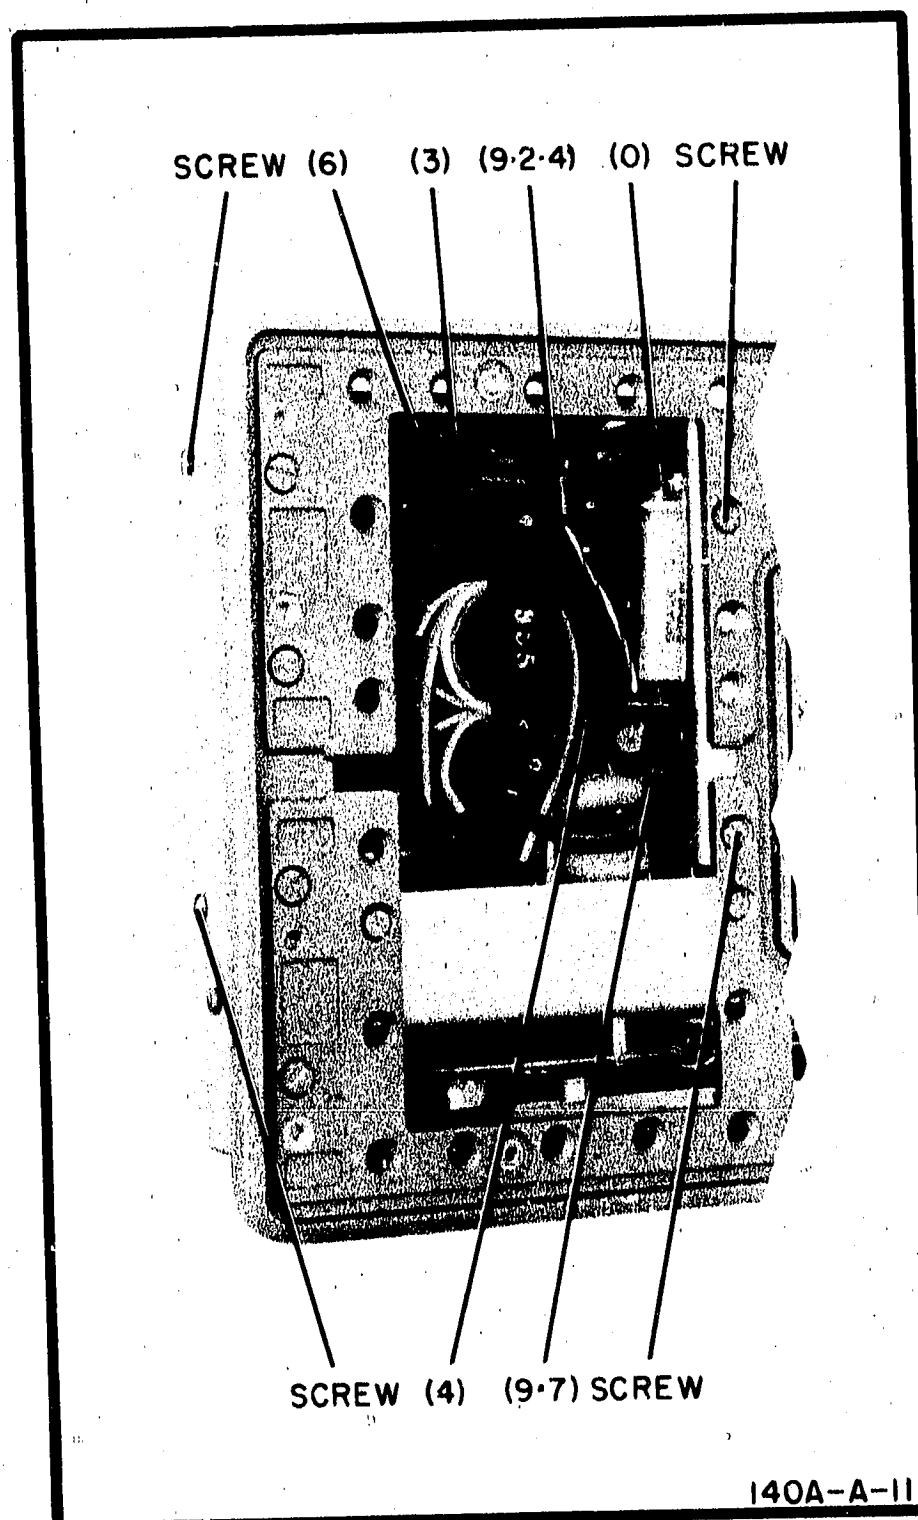

Figure 5-3. High Voltage Rectifier Deck Removal
5-42. H-V DECK REMOVAL AND REPLACEMENT. Most of the components on the high voltage deck can be replaced without removing the assembly. Other components can be removed and replaced by removing the deck part way out (without disconnecting wires). Refer to Figure 5-3 for mounting screw and wire identification; use the following procedure for removing the high voltage deck.
b. Disconnect the 6 wires from the board and remove the 4 mounting screws; see Figure 5-3 for wire and screw identification.